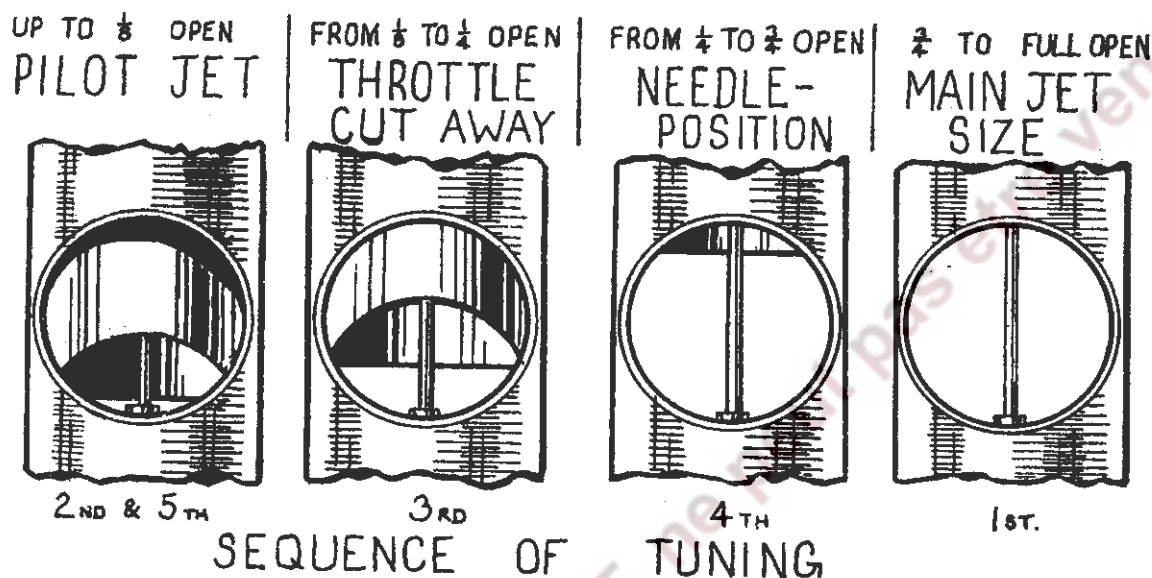

FIG. C.3.
1st MAIN JET with throttle in position 1, Fig. C.3. If at full throttle the engine runs "heavily" the main jet is too large. If at full throttle by slightly closing the throttle or air valve the engine seems to have better power, the main jet is too small.
2nd PILOT JET (Fig. C.3) with throttle in positions 2 and 5. With engine idling too fast with the twist-grip shut off and the throttle shut down on to the throttle adjusting screw, and ignition set for best slow-running: (1) Screw out throttle adjusting screw until the engine runs slower and begins to falter, then screw pilot air adjusting screw in or out, to make engine run regularly and faster. (2) Now gently lower the throttle adjusting screw until the engine runs slower and just begins to falter, adjust the pilot air adjusting screw to get best slow-running, if this 2nd adjustment leaves the engine running too fast, go over the job again a third time.
3rd THROTTLE CUT-AWAY with throttle in position 3 (Fig. C.3). If, as you take off from the idling position, there is objectionable spitting from the carburetter, slightly richen the pilot mixture by screwing in the air screw. If this is not effective, screw it back again, and fit a throttle with a smaller cut-away. If the engine
4th NEEDLE with throttle in position 4 (Fig. C.3). The needle controls a wide range of throttle opening and also the acceleration. Try the needle in as low a position as possible, viz. with the clip in a groove as near the top as possible; if acceleration is poor and with air valve partially closed the results are better, raise the needle by two grooves; if very much better try lowering the needle by one groove and leave it where it is best. If mixture is still too rich with clip in groove number 1 nearest the top, the needle jet probably wants replacement because of wear. If the needle itself has had several years' use replace it also.